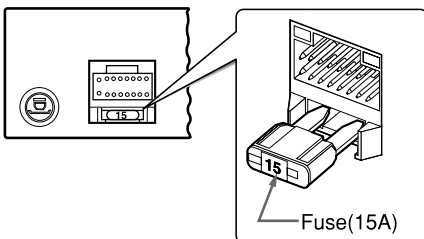

Figure 10
4. When any fuse is to be replaced, pull out the fuse (15A) at the rear of the main unit and put in a new one (Fig.10).